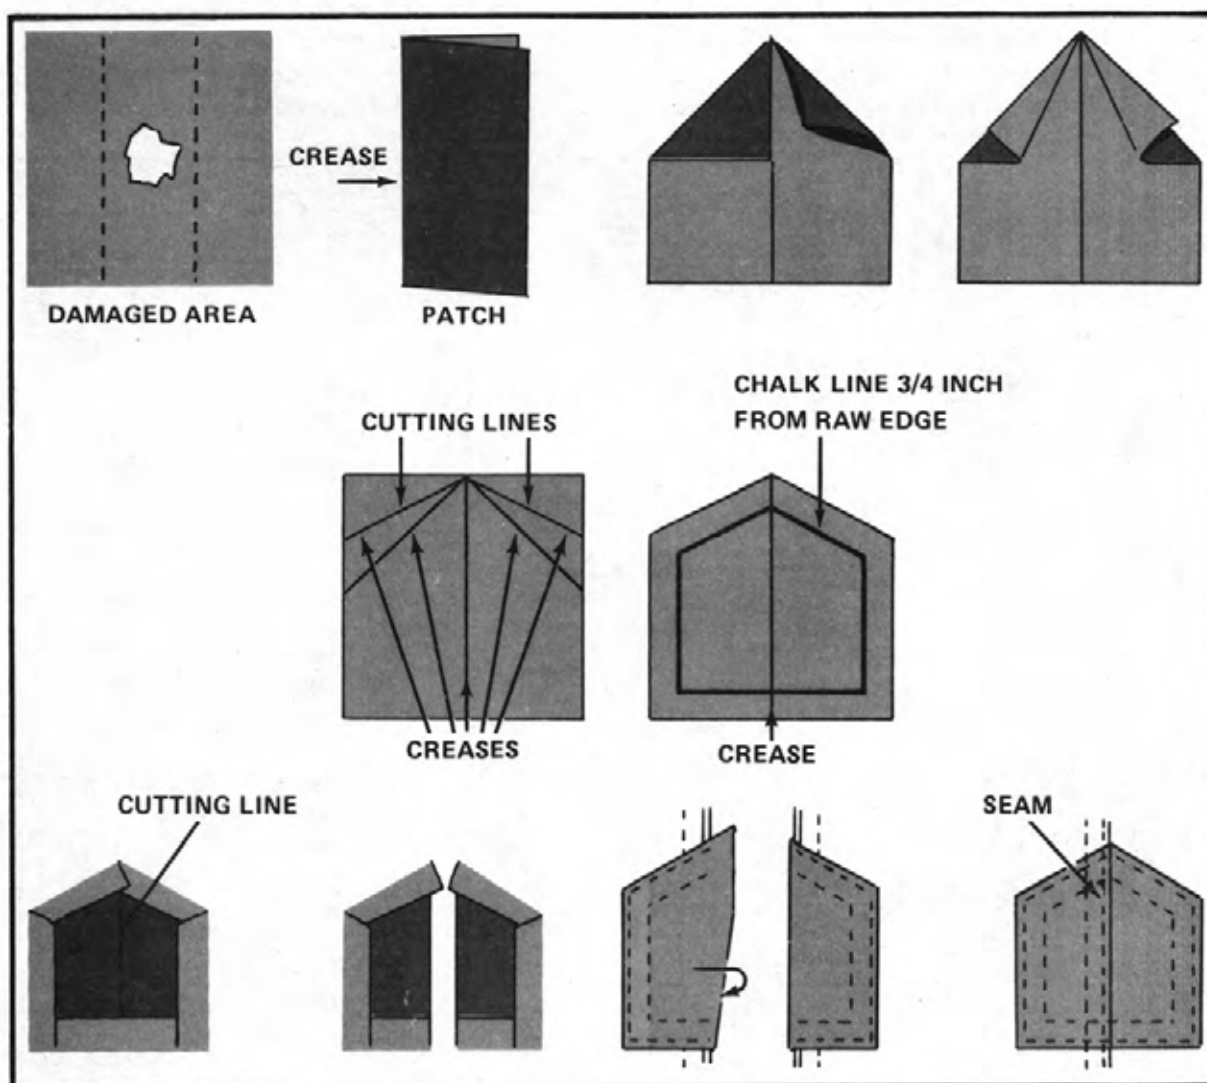

Figure 9-9. Over-seam watershed patch
(3) **Over-Seam Watershed Patch.** An over-seam watershed patch (Figure 9-9) is a combination of the slanted under-seam and on-seam patches. It is used on tents when there is damage at a seam. To make an over-seam watershed patch--